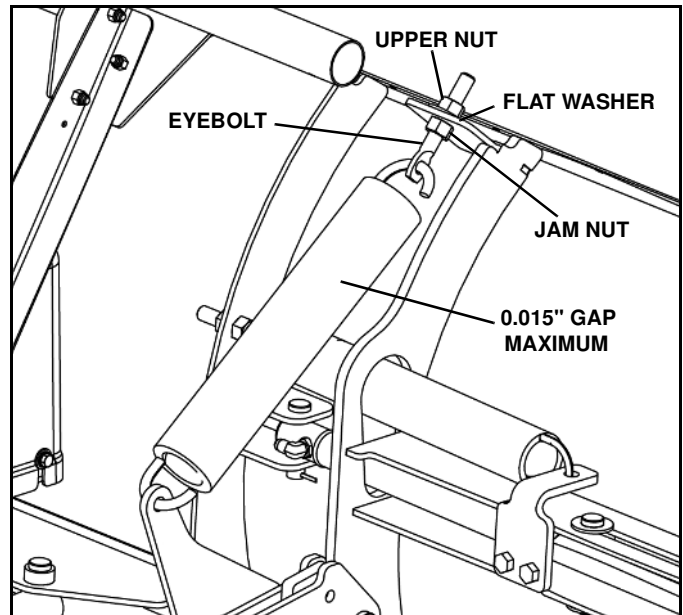

Figure 2-3
5. Hook a spring on an outer swing frame spring eyelet. (See Figure 2-3)